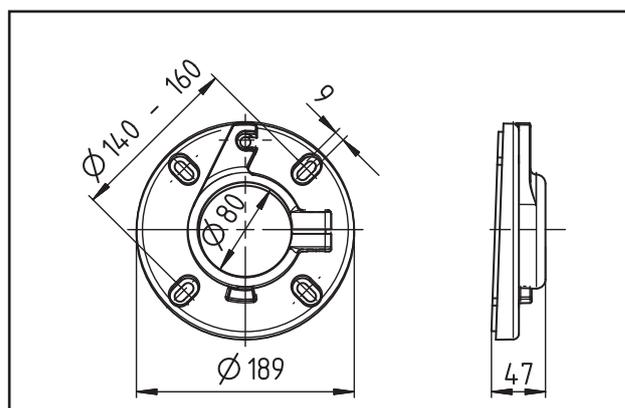

Figure 6
**Caution:** The flange must be oriented to ensure that the burner is installed with the correct angle (see fig. 6).